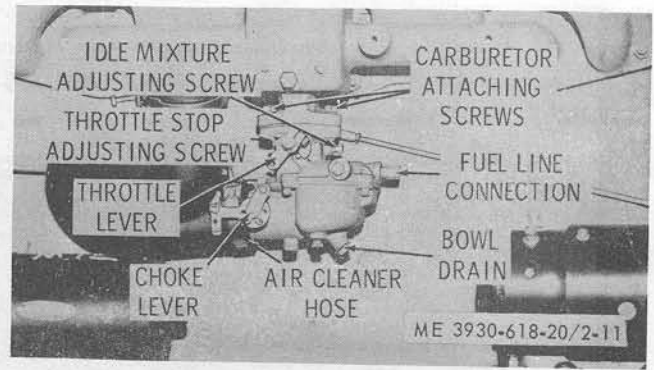

Figure 2-11. Carburetor, installed view.
a. Removal. Refer to figure 2-11, and remove the carburetor as follows:
- (1) Remove the left side panel.
- (2) Remove the air cleaner (para 2-16) and the connecting hose.
- (3) Disconnect the fuel inlet line at the carburetor.
(5) Disconnect the choke control cable at the carburetor (fig. 2-11).
(6) Remove the 2 nuts and lockwashers securing the carburetor to the intake manifold and remove the carburetor.
(1) As initial adjustments, before starting the engine, turn the idle stop screw (fig. 2-11) in against the stop to hold the throttle slightly open and set the idle mixture adjustment screw at approximately midposition.
(2) Turn the idler speed adjustment screw (fig. 2-11) in against the stop to hold the throttle slightly open. Set the idle mixture adjustment screw at approximately midposition.
(3) Start the engine and allow it to warm up to normal operating temperature.
(4) Gradually turn the idle mixture adjustment screw in until the engine begins to miss; then turn it out until the engine begins to run unevenly.
(5) Turn the idle mixture adjustment screw in to a point midway between the two points reached in (4) above or until the engine runs smoothly.
(6) With the idle stop adjustment screw, set the idle speed at 500 to 550 rpm.
(7) Readjust the idle mixture as necessary to achieve smooth engine operation at normal idle speed.